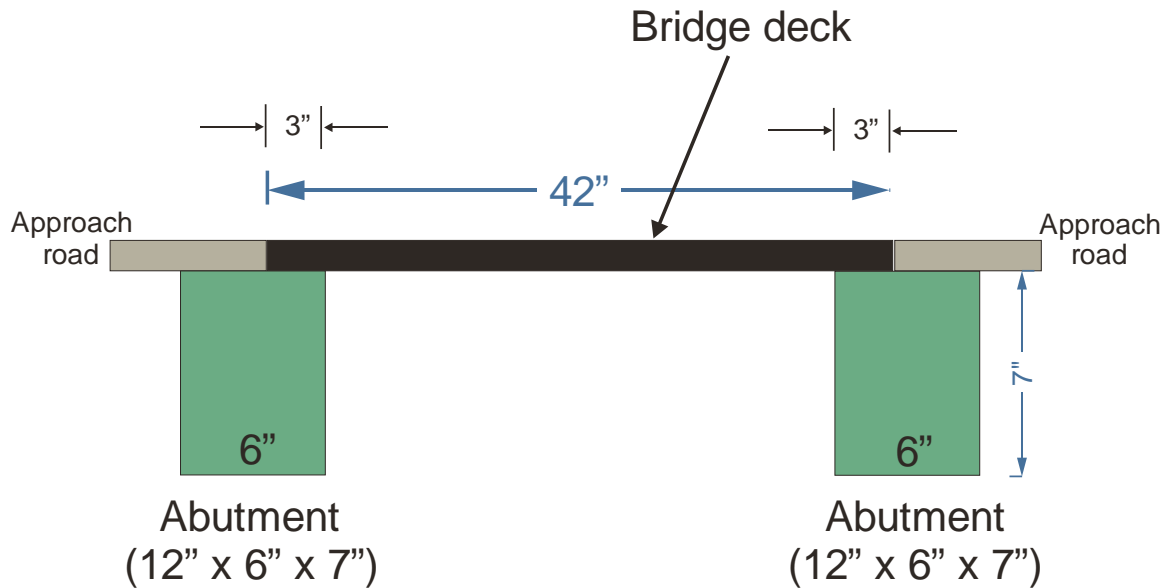

Fig. 4.1(a) Site and bridge diagram
**Problem Statement:** Fig. 4.1 shows the schematic layout of a scaled cable-stayed bridge that is made from a variety of materials. The bridge deck is made of corrugated cardboard. The columns are made of wood.
Fig. 4.1(b) Elevation view showing one of many possibilities with required obstruction-free areas below the bridge deck. At least one 12" continuous obstruction-free space must be available under the bridge deck (note this space does not include the 3" obstruction-free space next to the abutments).
Fig. 4.1(c) Plan and side views showing one of many possibilities with required obstruction-free areas above the bridge deck (note that if columns are used, they must be placed within the 1.5" space on the edges of the bridge deck as shown)